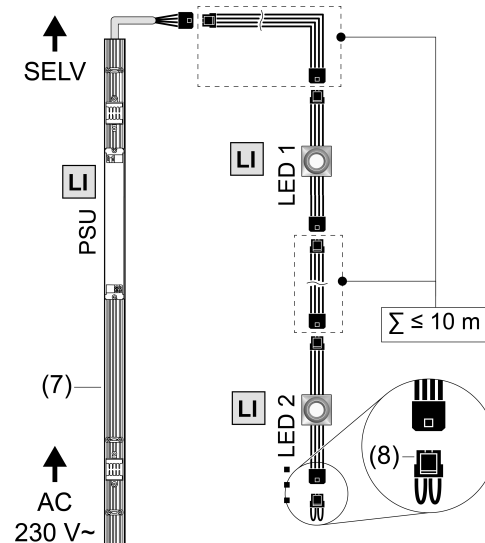

Figure 4: Connection diagram
- Link the light inserts together according to the connection diagram and connect them with a suitable operating device (7) (Figure 4).